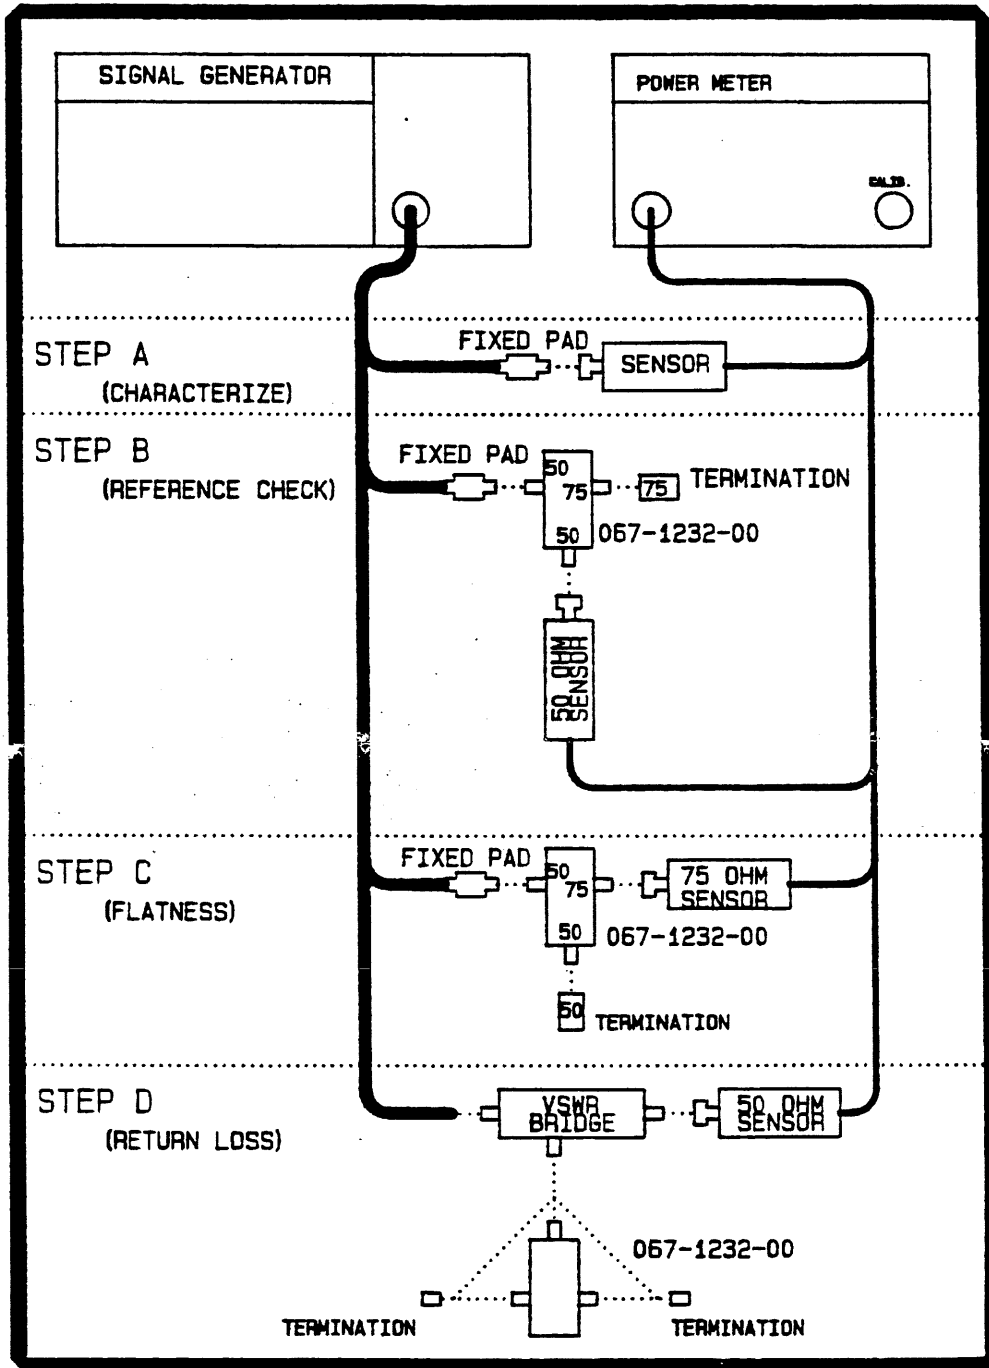

FIGURE 1. POWER DIVIDER TEST EQUIPMENT SETUP
- b. Set up the test equipment as shown in Step C of Figure 1:
- d. Set up the test equipment as shown in Step A of Figure 1:
- g. Set up the test equipment as shown in Step A of Figure 1:
- i. Set up the test equipment as shown in Step B of Figure 1:
- a. See Step D of Figure 1 for test equipment set up.